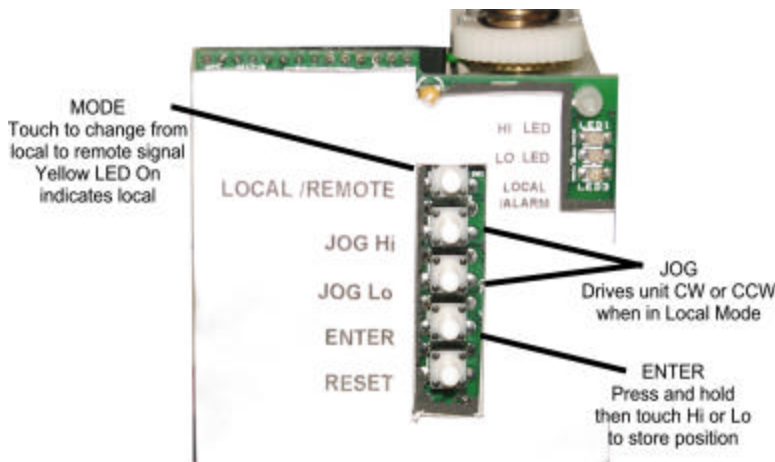

Fig. 2 Pushbutton selections
4. Once the power is connected the unit will do a self-test. This will take approximately 2-3 seconds. Then the unit will rotate to the factory set position corresponding to the input signal given. Simply touch the Local / Remote switch see Fig. 2 to stop the unit. The local / Alarm LED will light. A yellow LED means that the unit is in Local Mode. The unit can now be